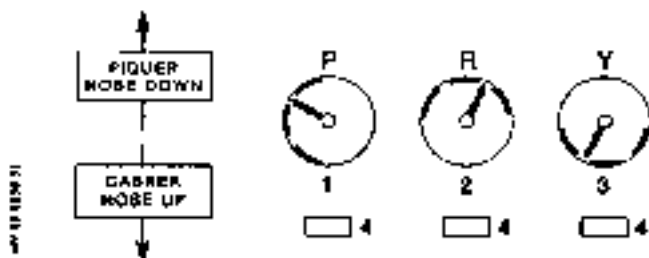

Figure 2
1.1 Autopilot control panel (figure 2)